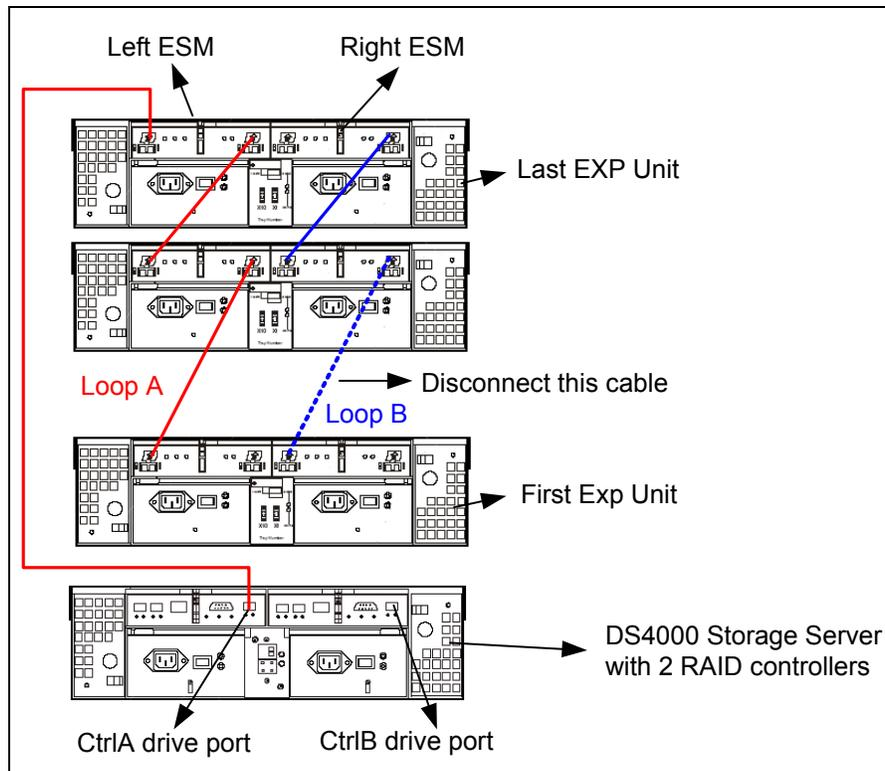

Figure 12-46 Disconnect remaining FC cables from first ESM in disconnected drive loop
- a. Disconnect any Fibre Channel cables from the first ESM (in Figure 12-46) that you will replace in the disconnected drive loop. Leave in place the Fibre Channel cables connected to the other ESMs in the disconnected drive loop. In Figure 12-46, the cable to be removed is shown with dashed lines.
- b. Replace the disconnected EXP700 ESM (in Figure 12-46) with one of the upgrade ESMs that you received in the EXP700 Models 1RU/1RX Switched-ESM Option Upgrade Kit.